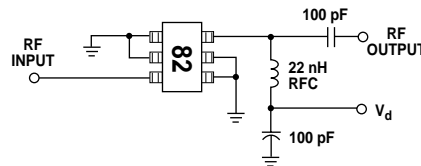
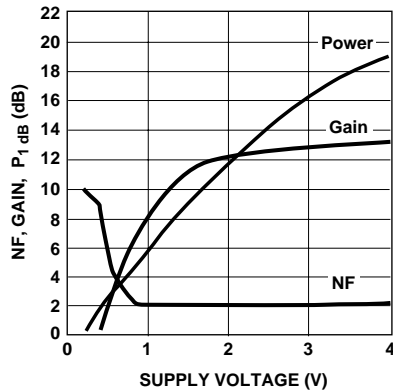

Figure 10. Test Circuit.
Figure 19. Gain, Noise Figure, and Output Power vs. Supply Voltage.
1. Guaranteed specifications are 100% tested in the circuit in Figure 10 in the Applications Information section.
The circuit shown in Figure 10 is used for 100% RF testing of Gain and Noise Figure. The test circuit is merely a $50\ \Omega$ input/output PC board with a RFC at the output to apply DC bias to the device under test. Tests in this circuit are used to guarantee the NF_{test} and G_{test} parameters shown in the table of Electrical Specifications.
mental response. This data was measured in the test circuit in Figure 10.
While the MGA-82563 is designed primarily for use in +3 volt applications, the internal bias regulation circuitry allows it to be operated with power supply voltages from +1.5 to +4 volts. Performance of Gain, Noise Figure, and Output Power over a wide range of bias voltage is shown in Figure 19. (This data was measured in the test circuit in Figure 10.) As can be seen, the gain and NF are fairly flat, but an increase in output power is possible by using higher voltages. The use of +4 volts increases the P_{1dB} by over 2 dBm.